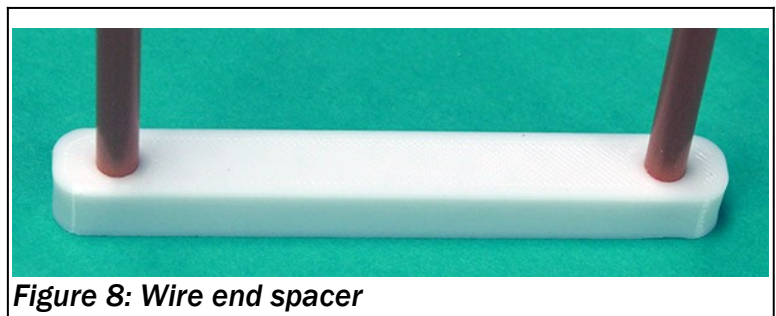

Figure 8: Wire end spacer
b) Cut four short pegs for the wire end spacer (Figure 8). These can be about  $\frac{3}{4}$ " long to keep the 3D-printed spacer close to the wires.